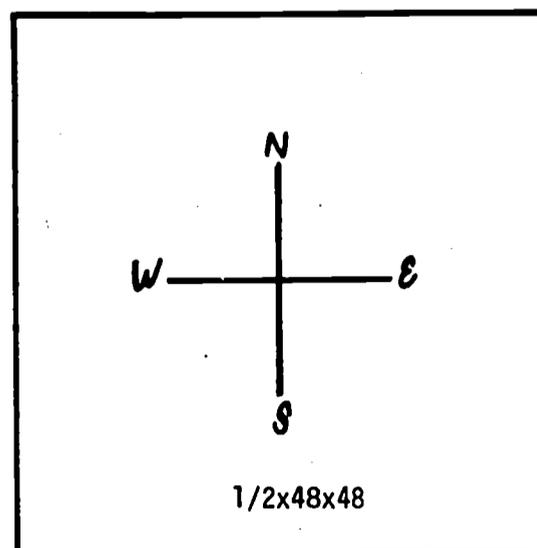

Fig. 11-2. Site Board
4. On the $48'' \times 48''$ plywood sheet locate the exact center. Draw two short intersecting lines through this point, parallel to the edges, to represent compass directions. Label them N, E, S, W. See Fig. 11-2.